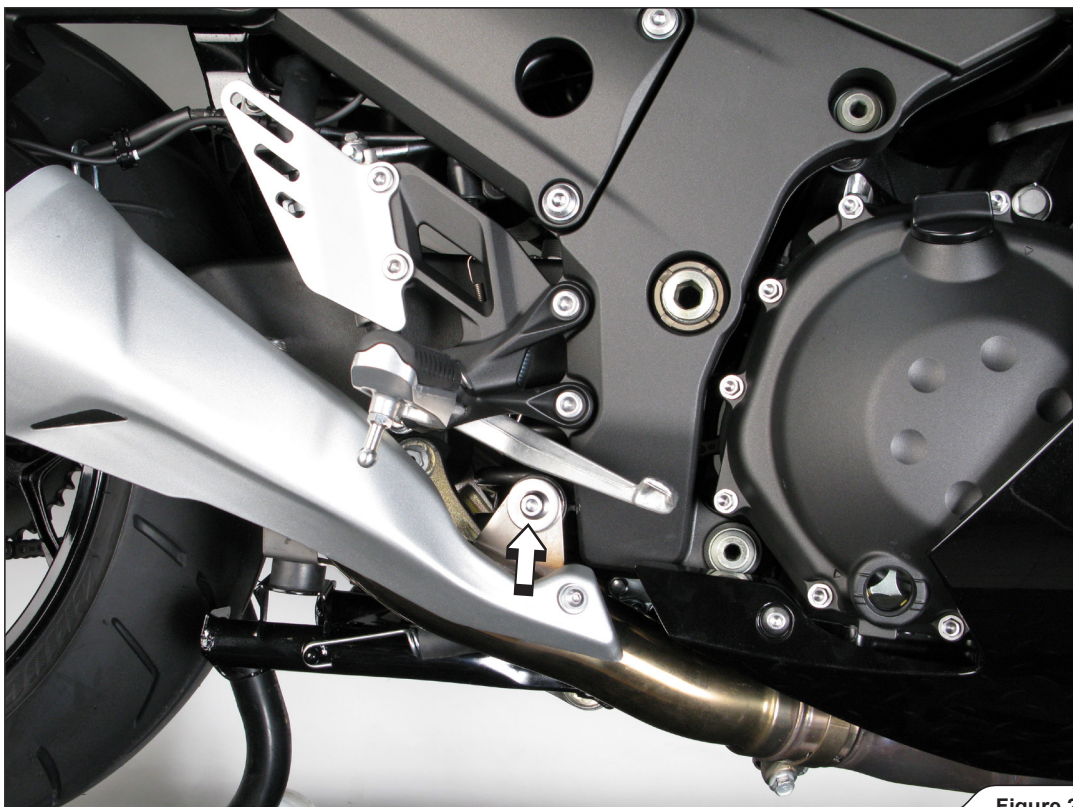

Figure 2
3. Unscrew the marked link pipe bracket bolt on the right side of the motorcycle (**Figure 2**).